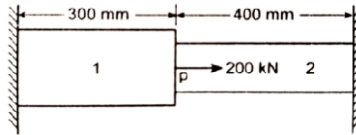

Figure-2
- b) Consider a bar as shown in figure-2 an axial load of 200 kN is applied at a point P. Take $A_1 = 2400 \text{ mm}^2$, $E_1 = 70 \times 10^9 \text{ N/mm}^2$, $A_2 = 600 \text{ mm}^2$ and $E_2 = 200 \times 10^9 \text{ N/mm}^2$. Calculate the following (i) the nodal displacement at point, P (ii) Stress in each element (iii) Reaction force. 13,K3,CO2